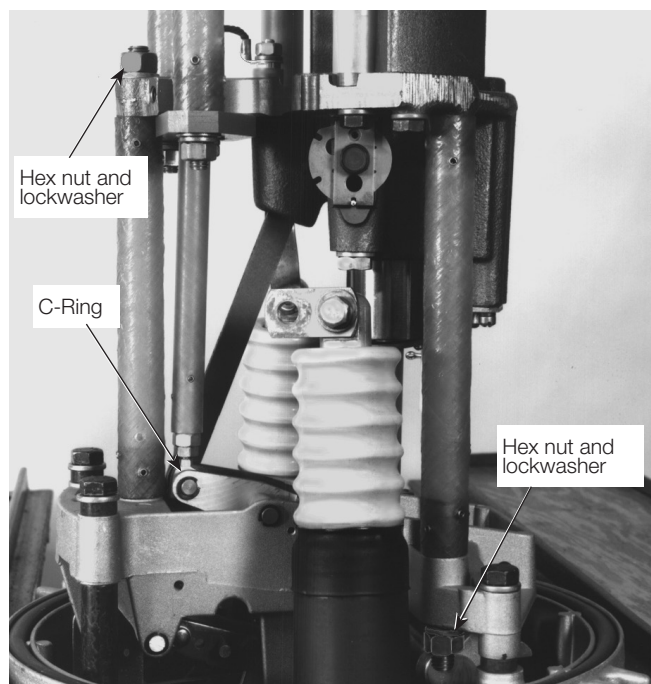

Figure 8. Removing solenoid frame from mechanism
2. Remove three hex nuts and lockwashers which attach solenoid frame to support stringer and mechanism frame, see Figure 8. Remove C-ring that secures contact rod to operating linkage. Carefully remove solenoid frame assembly.